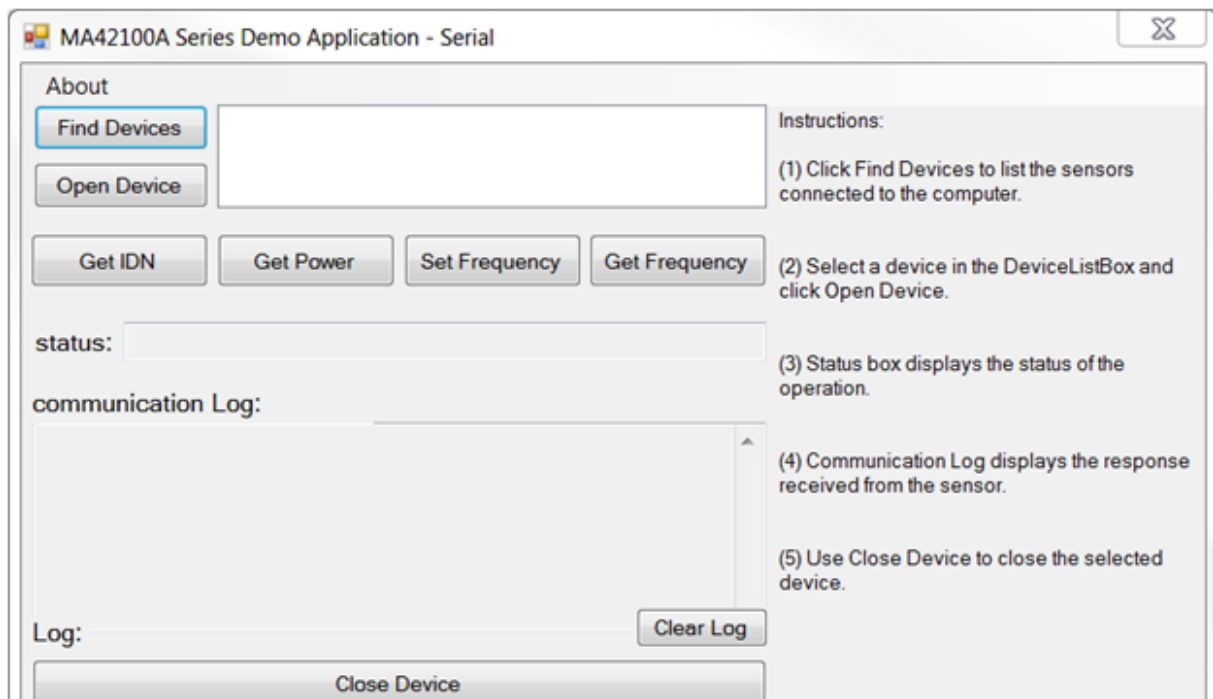

Figure A-1. Demo Application
1. User must close all applications which communicate with power sensors prior to running the Demo Application. The driver and demo app folder on [anritsu.com](http://www.anritsu.com) provides the Overview, Getting Started Instructions and Sample Code to launch the Demo Application. Double click on **DemoApp.exe**. The application screen shown in Figure A-1 will appear.